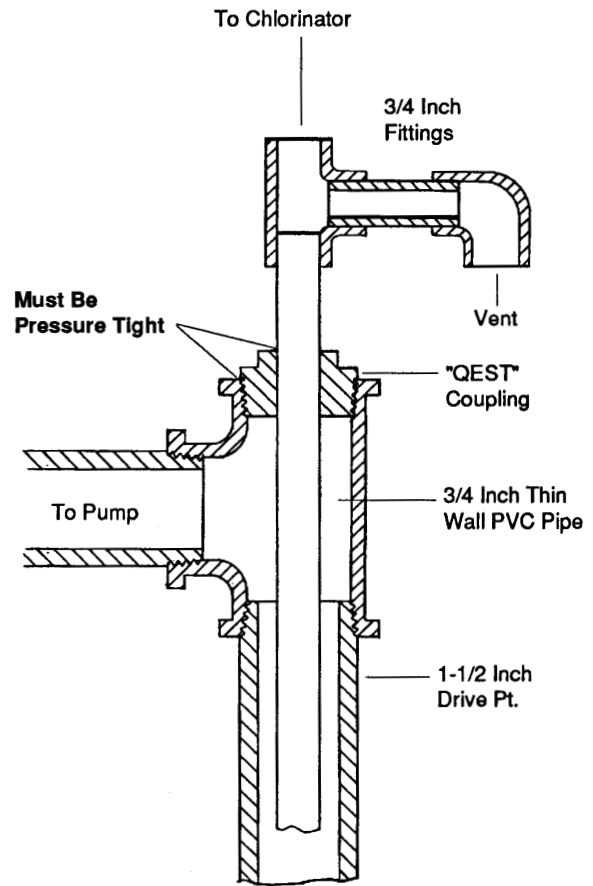

Figure 16
2. Seal the drop tube through the top of the tee using a pressure tight fitting, such as "QEST", QEST is a common brand coupling found in most plumbing or well supply stores. Refer to Figure 16.